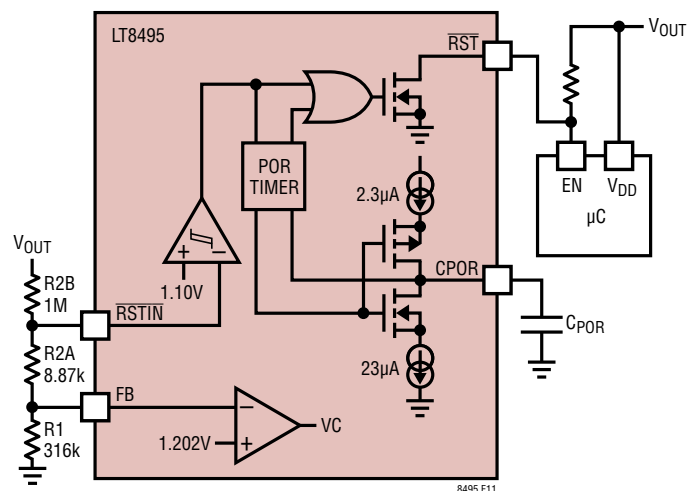

Figure 11.  $\overline{RSTIN}$  Reset Lockout
**Output UVLO:** Connecting the  $\overline{RST}$  and  $\overline{RSTIN}$  pins as shown in Figures 11 and 12 implements an output under-voltage lock out (UVLO) circuit. This circuit resets  $V_{OUT}$  powered devices when  $V_{OUT}$  is below a desired voltage by asserting the open drain  $\overline{RST}$  pin low. Note that a pull-up resistor is required on the  $\overline{RST}$  pin, but might already be integrated in the  $\mu C$ . There is typically a 23 $\mu s$  delay from the  $\overline{RSTIN}$  pin falling edge until  $\overline{RST}$  is asserted low (see Electrical Characteristics section) for glitch immunity of the  $\overline{RSTIN}$  pin. After  $\overline{RSTIN}$  rises above its threshold,  $\overline{RST}$  continues to be asserted low for a delayed time programmable by the CPOR pin capacitor.
In the example shown in Figure 11,  $V_{\text{OUT}}$  is regulated to 5V. For a desired UVLO% of 89.5%, the calculated R1, R2A, and R2B values are 316k, 8.87k, and 1M respectively.